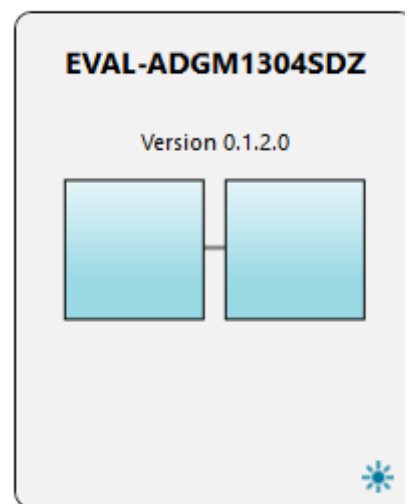
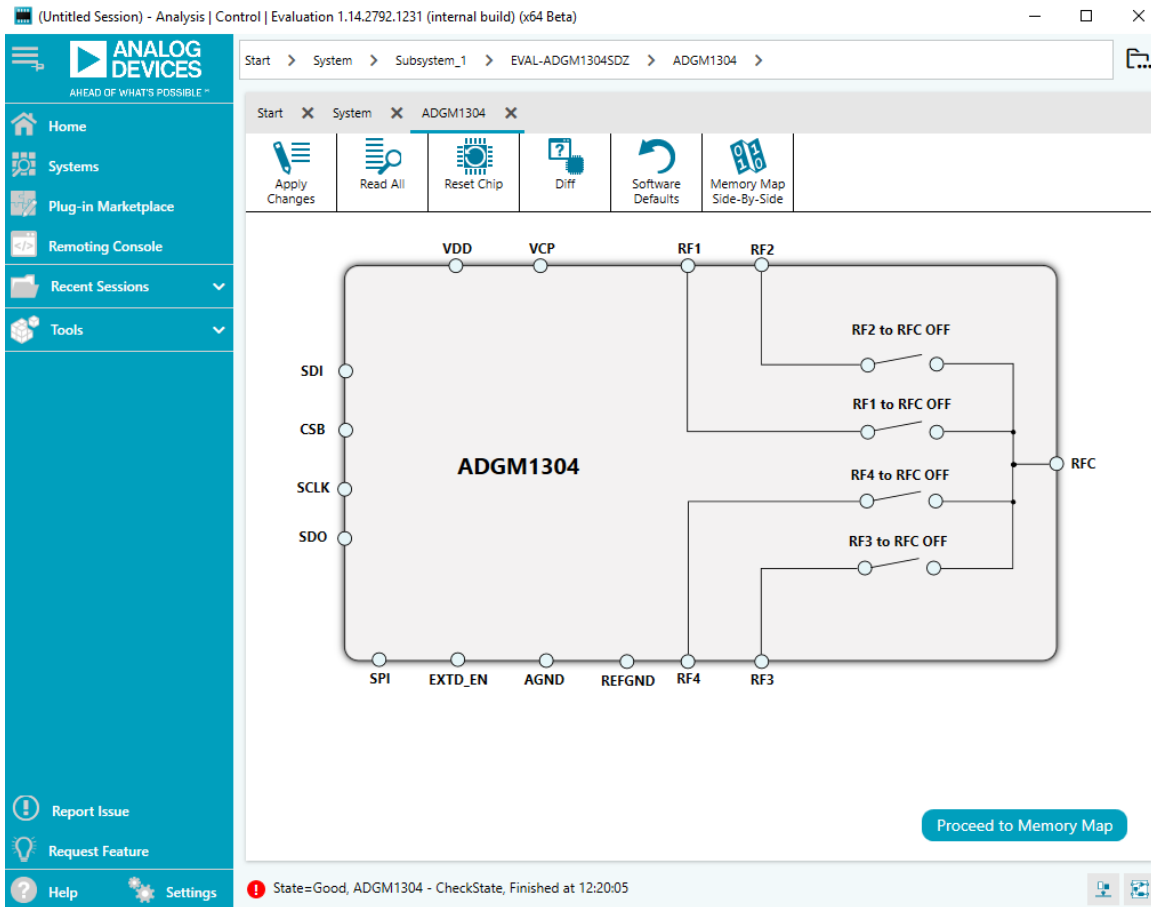

Figure 3. Evaluation Board View of the EVAL-ADGM1304SDZ
Figure 4. Chip Block Diagram View for the ADGM1304
7. Double-click the evaluation board plug-in to open the evaluation board view, as shown in Figure 3.
8. The chip block diagram can be accessed by double-clicking the ADGM1304 chip (see Figure 3). This view provides a basic representation of functionality of the board. The main functions are labeled in Figure 4.